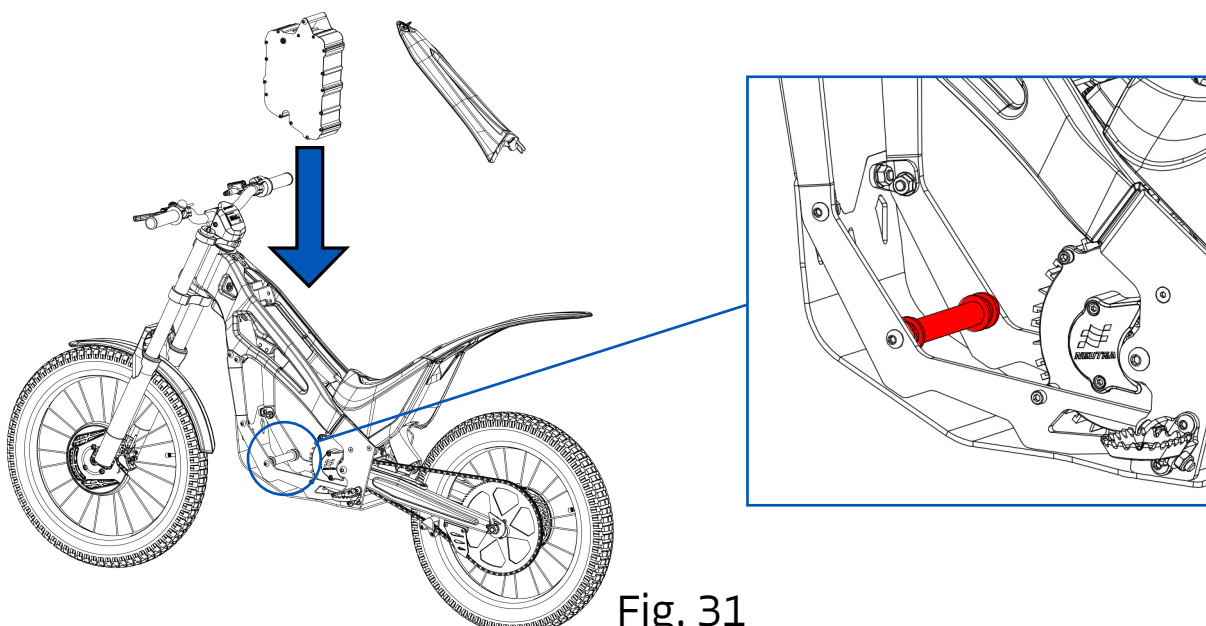

Fig. 31
- 3- Slide the battery into the interior of the motorcycle (Figure 31). Make sure that the battery socket is correctly positioned with the chassis anchor bar (marked in red in the image).